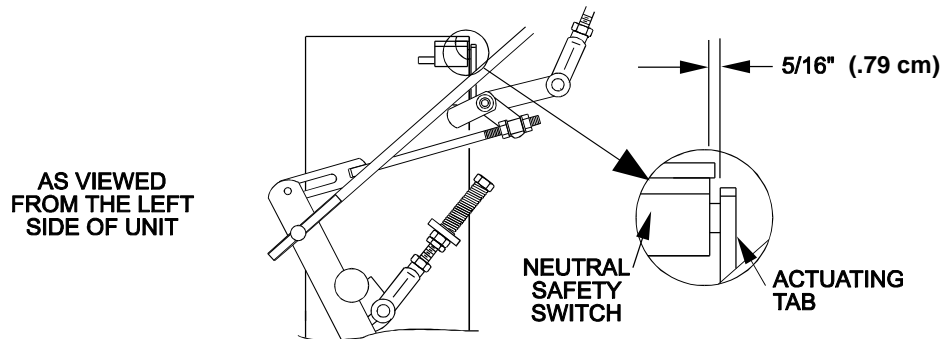

FIGURE 11
2. Move the speed control lever (located on the console) to the full forward position and check the orientation of the tabs on the ends of the speed control crank (Figure 11). These tabs should be pointing straight down at the 6 o'clock position or slightly forward. Adjust the threaded yoke at the bottom of the speed control linkage (See Figure 11) until the tabs are positioned correctly.
3. Pull the speed control lever back to neutral. Check that the neutral safety switch actuating tab has depressed the plunger of the switch so that there is about 5/16" (.79 cm) between the tab and the switch. See Figure 11. If necessary, move the switch fore and aft.